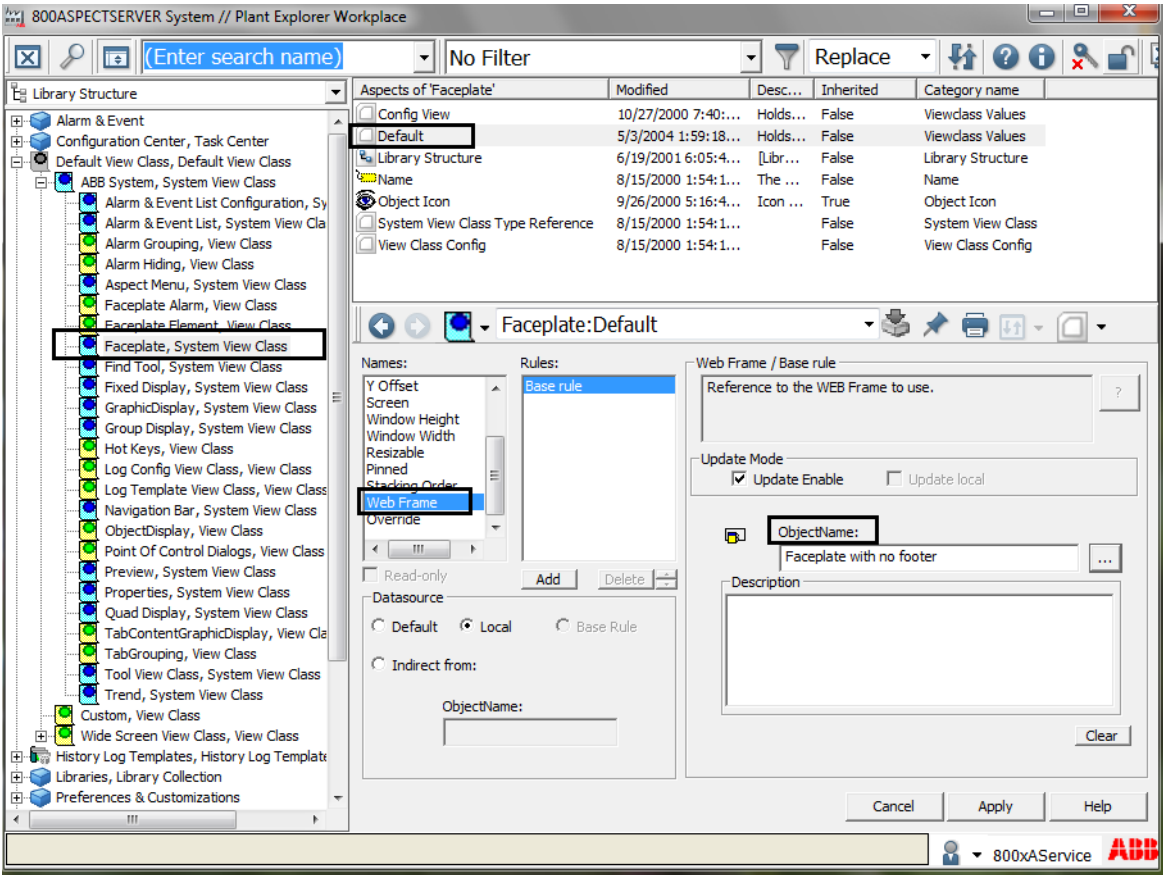

Figure 114. Default aspect of the Faceplate System View Class object
5. Click **Apply** (see Figure 114) to save the changes.